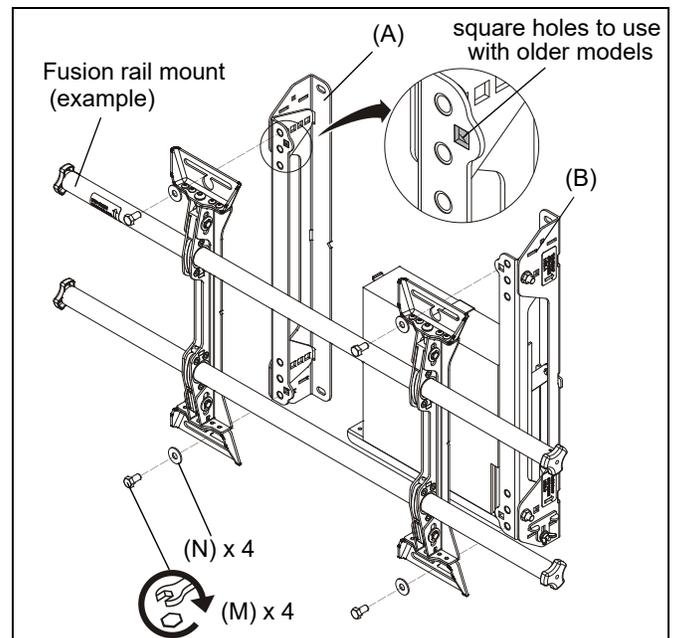

Figure 8
- Use four 5/16-18 x 5/8" hex head bolts (M) and four 5/16" washers (N) to secure Fusion rail mount to brackets (A and B). (See Figure 8)
NOTE: For some older Fusion models, four 5/16-18 X 3/4" round head carriage bolts (P) and four 5/16" hex nuts (Q) must be used to attach fusion mount to FCA113 using the square holes on FCA113 brackets. (See Figure 8)